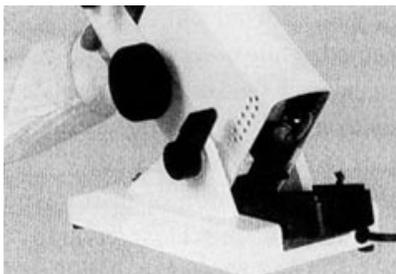

Fig. 13
3.11 Illuminating bulb chamber (Fig.13)